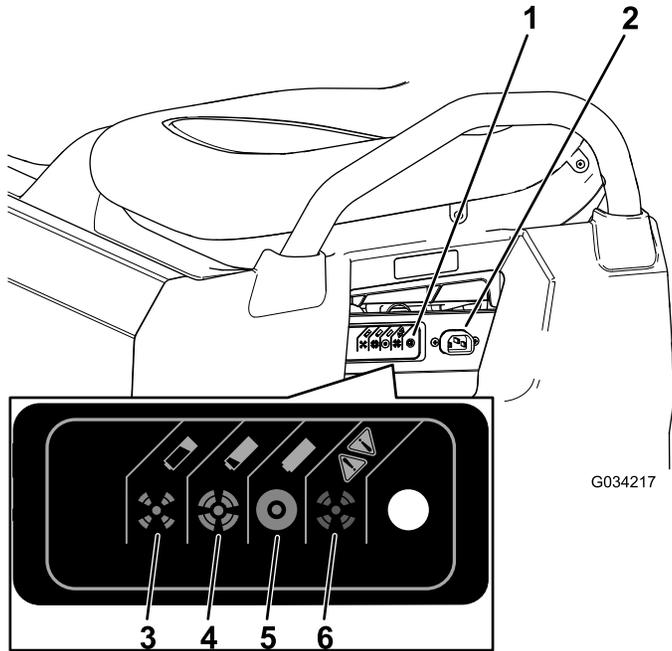

Figure 39
3. Connect a **16 gauge (or larger diameter), 2.5 m (8.2 ft) or shorter charger cord** to the charging receptacle on the machine (Figure 39).
Refer to the following table and Figure 39 for information on the meanings of the varying colors of the charger-status light.